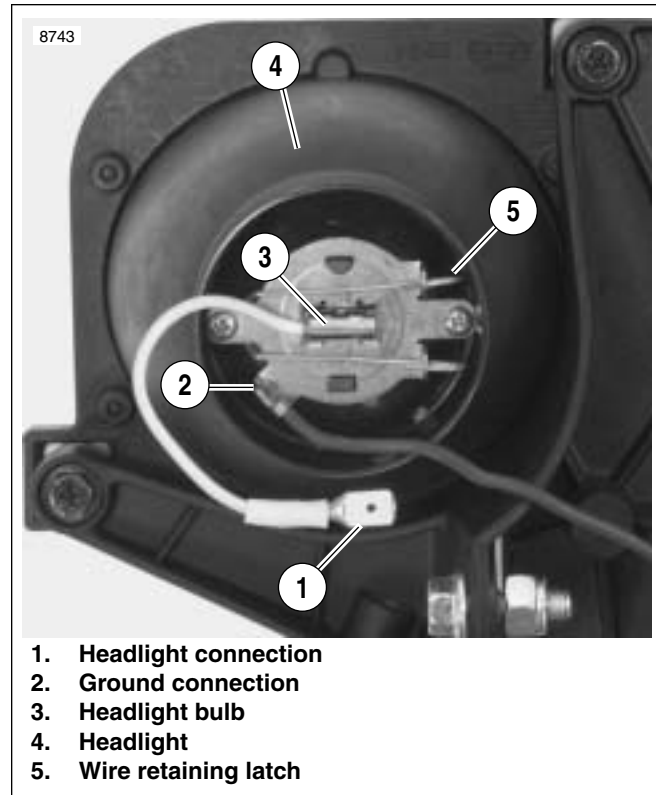

Figure 7-47. Headlight Bulb
2. See Figure 7-47. Disconnect headlight connection (1).
3. Release wire retaining latch (5) from headlight housing clips.
1. See Figure 7-47. Align tabs on bulb (3) with tabs on headlight (4). Insert bulb.
2. Close the wire retaining latch (5).